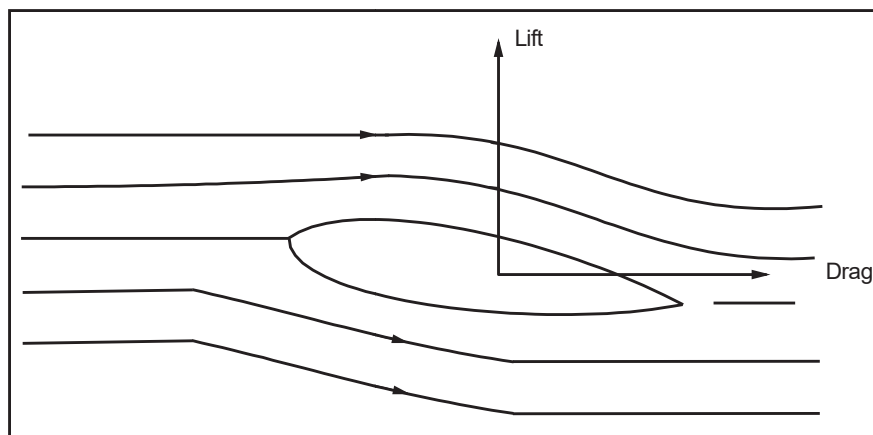

Fig. 3.7.1 Aerofoil
4. With a good aerofoil (Fig. 3.7.1), the lift produced can be more than thirty times greater than the drag.